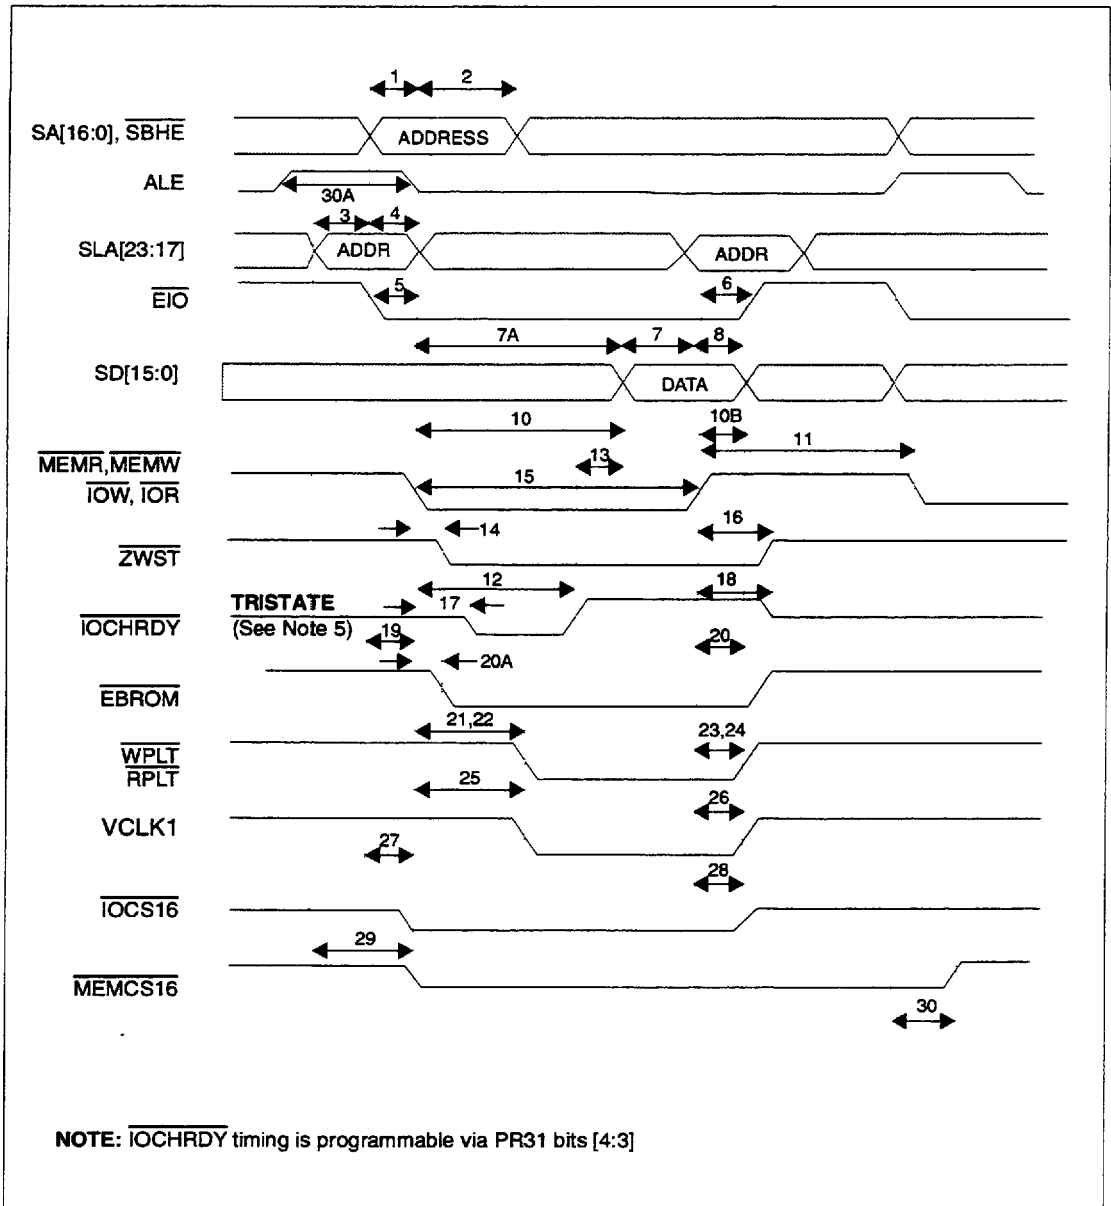

FIGURE 30-3. I/O AND MEMORY READ/WRITE ISA (AT) MODE TIMING
The I/O and memory read/write timing in ISA (AT) bus mode is listed in Table 30-4 and shown in Figure 30-3.